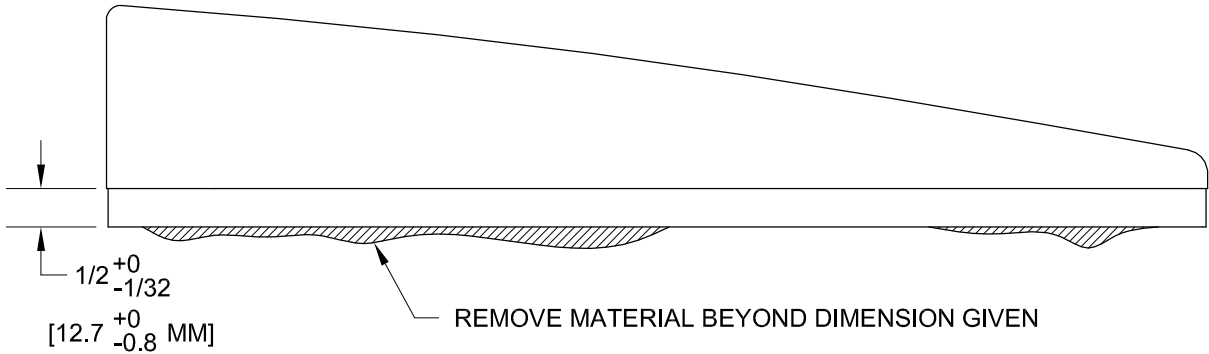

FIGURE 2:
Step 2: Trim any extra material from the recessed area of the R-1206 per dimension given in Figure 2. Coarse 80 grit sandpaper on a wood block works well for this step.